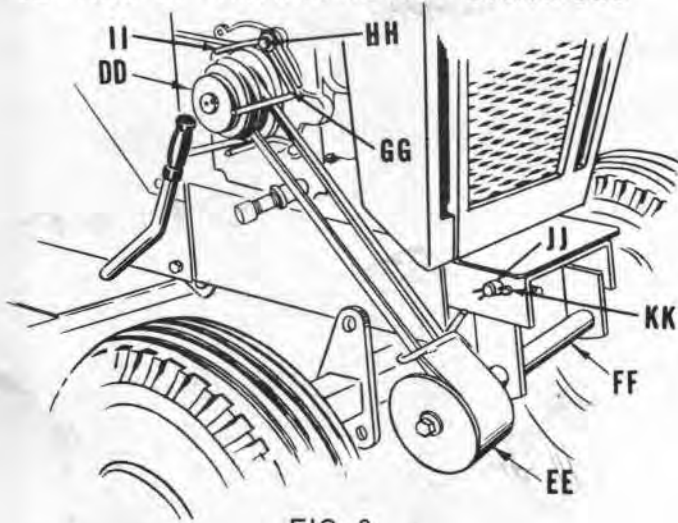
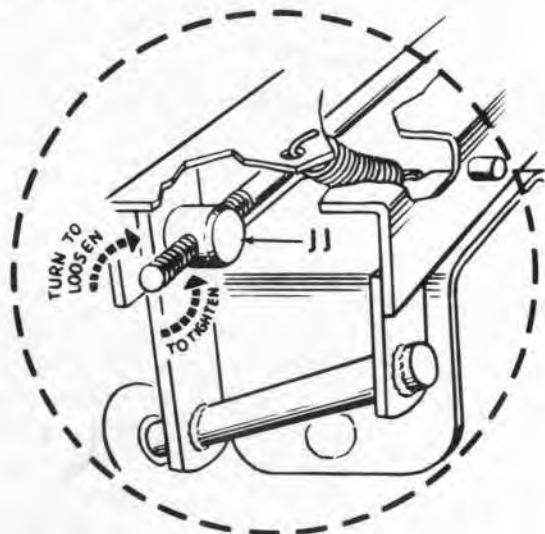

FIG. 8
FIG. 11
12. Remove nut, lockwasher, and belt guard (EE), from shaft (FF). Place belt on idler sheaves (under belt guard EE) and on engine pulley (DD) as shown. Replace belt guard (EE), and secure with lockwasher and nut. Refer to Figure 8.
13. Remove bolt (HH) holding short belt guide (II) on engine and assemble belt guide (GG) furnished over short belt guide (II) with 3/8-16x1 1/4 bolt and 7/16x1x10 Ga. washer furnished in bag of parts. Refer to figure 8. NOTE: Adjust Belt guides (EE) (GG) and (II) so that they clear belt by 1/8 inch when belt is tight, (belt tightener lever pushed forward or engaged).
14. Assemble adjusting pin (JJ) to idler Frame (FF) and secure with spring retainer (KK) as shown. Adjust for proper belt tension see belt adjustment Page 5. Check belt guides for proper clearance.
Turning adjusting pin (JJ) figure 11 adjusts belt. Remove spring retainer (KK) in figure 8 and turn adjusting pin (D) figure 11 in a counter clockwise direction (when standing in front of tractor) to tighten belt.